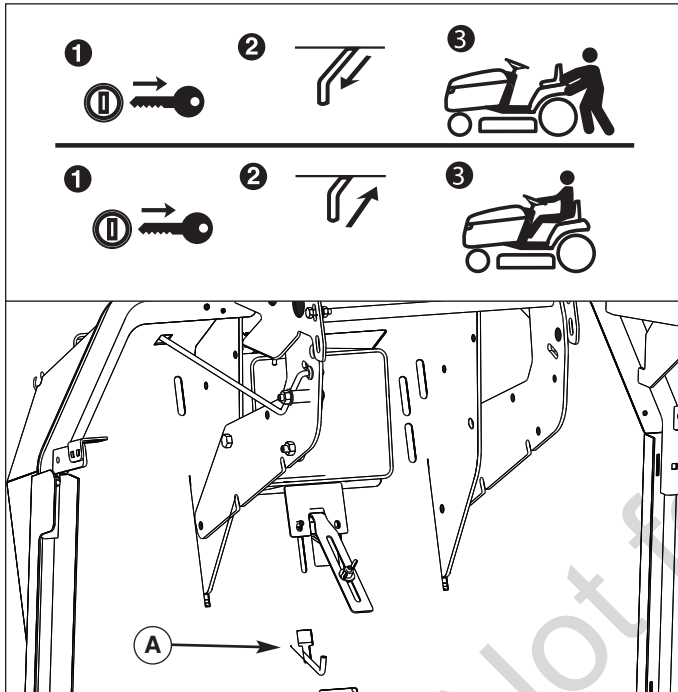

Figure 2.2. Transmission Release Lever (4WD)
2. Push the transmission release in approximately 2-1/2" (6.4 cm) to lock into released position (Figure 2.2).